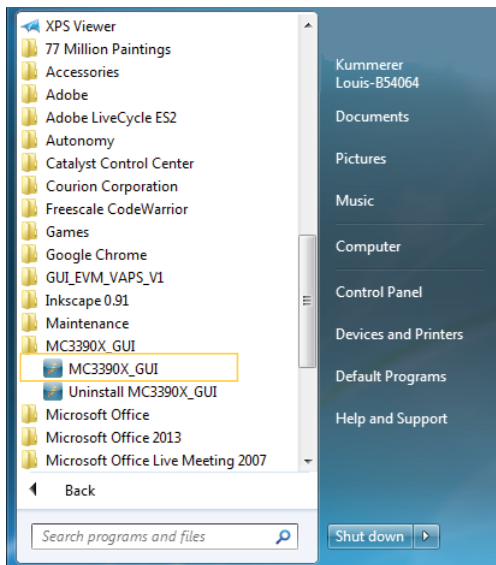

Figure 11. Launching MC3390X_GUI application
1. To launch the MC3390X_GUI application, click on the application icon located either on your desktop or in Program Files menu as shown in Figure 11.